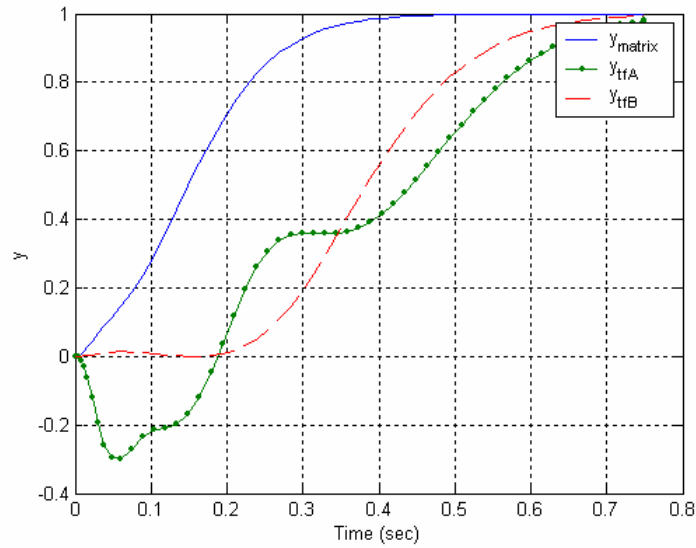

Figure 6. Results for 4f.
f) Copy your observer/controller from part (a) to new files (Matlab and Simulink). In addition to this state space based model, implement an observer/controller transfer function as suggested on page 869 of the text (Program 12-8) for both types of configurations (A and B) above. (You should have three models all in one file.) Assume we are trying to control the position of the first cart and that the closed loop state feedback poles are at $p = [-20 -30 -25+5j -25-5j]$ and the observer poles are at p . Note that the only output available to the observer is the position of the first cart. Assume all initial states are zero. Note that you do not need to write your model of the plant as a transfer function (you can leave it as a state space model), though the observer/controller transfer function should be written as a transfer function. Be sure to include the proper prefilter. You should get results like those displayed in Figure 6. Turn in your plot and Matlab/Simulink code.